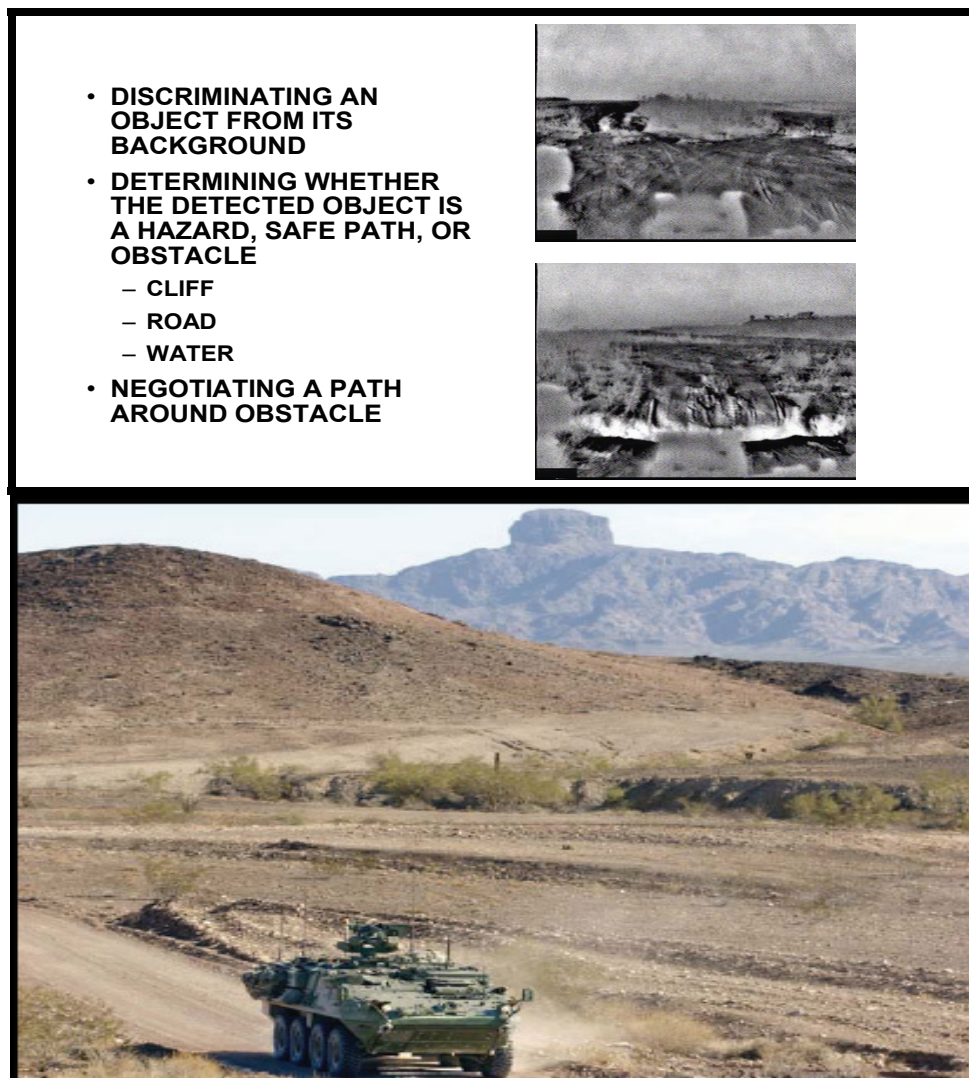

Figure 6-3. Visual vs. DVE thermal discrimination of natural objects.
6-17. In DVE thermal images (Figures 6-3 through 6-7), shades of gray represent intensity of IR energy. Thermal image brightness depends mainly on:
**NOTE:** Although actual photographs are not the thermal images shown in figures 6-3 through 6-7, they do offer a comparison of real time vs. projected thermal images as seen by the driver.
6-18. Figure 6-3 illustrates visual vs. thermal discrimination of natural objects.